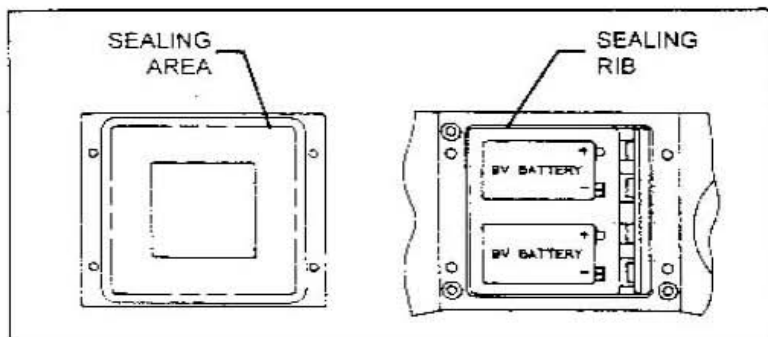

FIGURE 6
8. Install two (2) fresh new batteries. **Always replace both batteries at the same time.** Use only pairs of the following: Eveready Alkaline No. 522 or EN22, Duracell Alkaline No. PC1604 or MN1604, or for increased service life use Ultralife Lithium Battery No. U9VL. Be sure batteries are installed with the terminals positioned as indicated by symbols molded in bottom of battery compartment.
9. The battery cover must be installed so that it is water tight after replacement. Clean the sealing rib around battery compartment and sealing face of the cover, shown in Figure 6, by wiping with a clean damp cloth to remove any dirt or foreign matter which might prevent a proper seal. Check cover gasket for tears or cuts. If damage is found, remove respirator from service and tag for repair by authorized personnel.